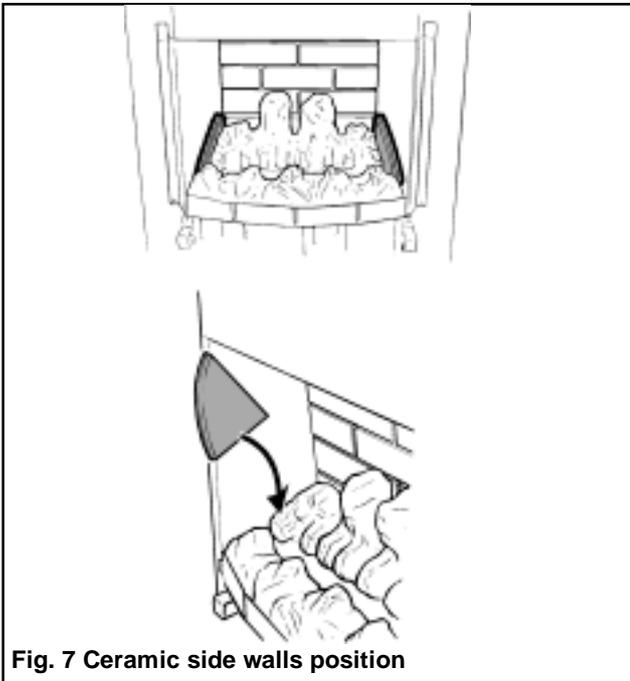

Fig. 7 Ceramic side walls position
4. The ceramic side walls are marked at the rear bottom corners "L" (Left side) & "R" (Right side). Place the side walls against the sides of the fire box and in the recesses at the sides of the base coals. The markings "L" & "R" should be at the back bottom corners and facing to the centre of the back of the firebox (See figure 7).